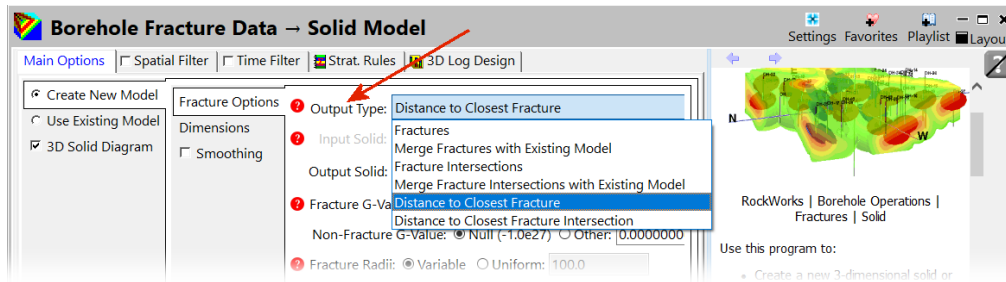

Figure 18
- Notice the *Output Type* option within the *Create New Model / Fracture Options* tab (Figure 18). These six “flavors” define the different types of models that can be created with this program. Select the type of model that you want and click on the *Continue* button.